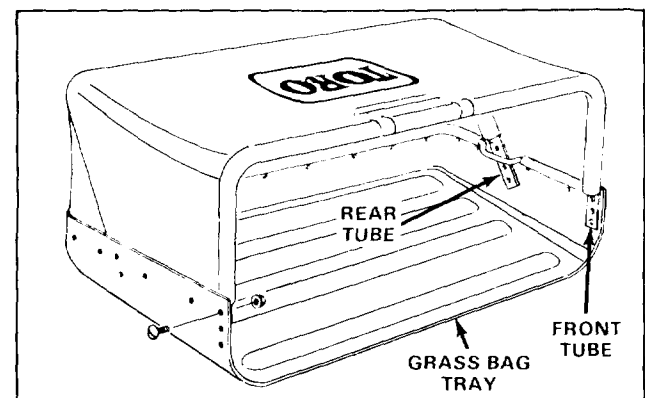

Figure 8
1. Slide bag support tube thru front seam in bag. Do not secure tube to bag tray at this time (Fig. 8).
2. Position rear bag support tube between bag rod and grass bag tray (Fig. 8).